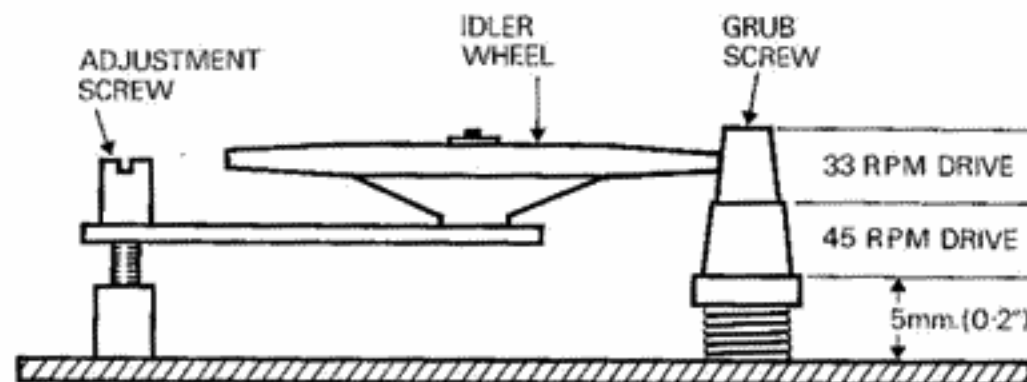

Fig. 20
- To replace pulley. There is a grub screw through the center of the smaller end. This should be unscrewed until its slotted end projects approximately $\frac{1}{8}$ in. out of the brass pulley. The pulley (with the spring attached) is pushed onto the motor shaft as far as it will go, while twisting in an anti-clockwise direction. The grub screw should then be screwed into the pulley to raise the pulley to the dimension shown in Fig. 20.